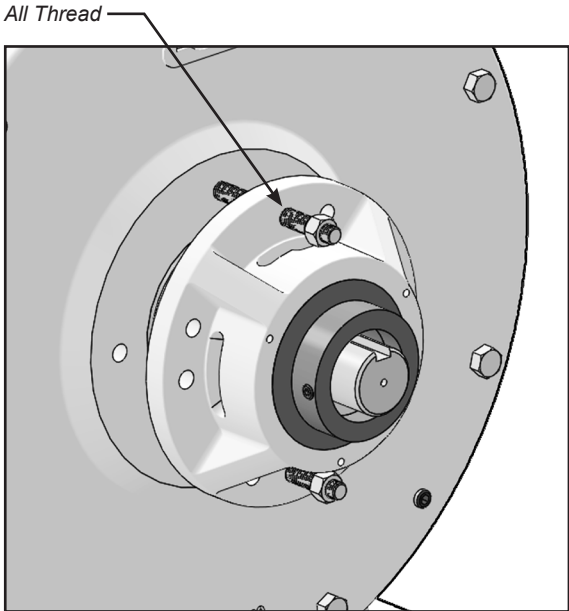

FIGURE 29
- 24. Install all thread rod and nut into opposing holes (Figure 29).